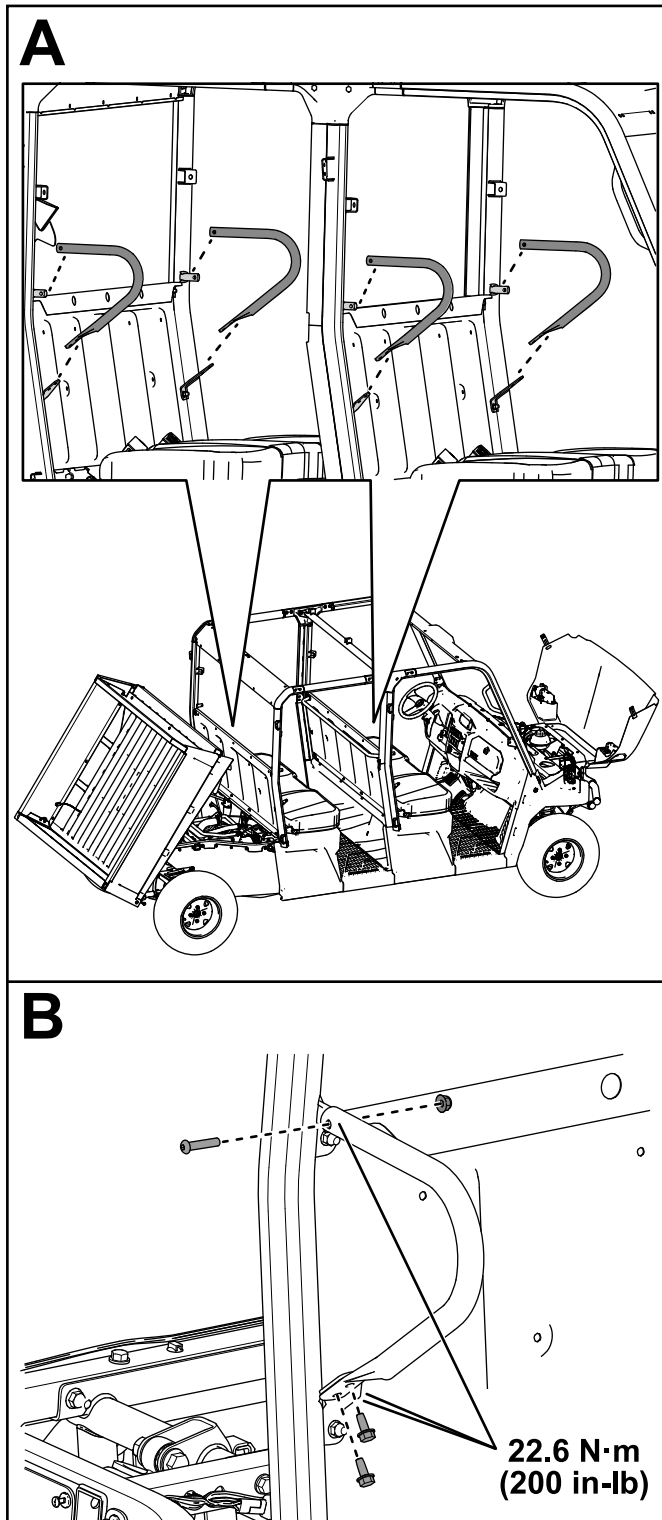

Figure 59
26. Secure the 4 shoulder restraints to the rear roll bar assemblies and middle roll bar assemblies using 8 self-tapping screws (5/16 x 3/4 inch), 4 button-head bolts (5/16 x 1-1/2 inches), and 4 locknuts (5/16 inch) as shown in Figure 59.
Torque the locknuts (5/16 inch) to 22.6 N·m (200 in-lb) as shown in Figure 59.